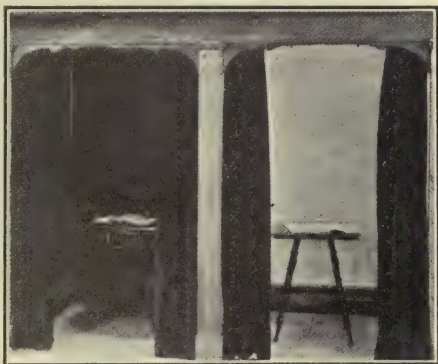

FIG. 117.— These two rooms receive the same amounts of light. The room at the left has dark walls and the one at the right has light walls.
**Indoor illumination.**— We see objects by means of light which comes from them to our eyes. If an object, such as a picture, is well illuminated, it reflects light to the eye, and we see it distinctly. If it is poorly illuminated, it reflects little light to the eye, and we see it indistinctly and with effort. Objects do not all reflect light equally well. A white object reflects most of the light which falls upon it and a moderate illumination is sufficient to light up a table with a white table cover. A black or dark object reflects light badly, and a strong illumination is necessary to light up dark stairways and darkly papered walls (Fig. 117). A light that would be strong enough for sewing white materials would be far from sufficient for sewing black or dark materials. A room that receives little light from out of doors should be brightly papered and furnished, otherwise it is somber, furniture does not stand out, and reading and sewing in it cause eye-strain. We are not always conscious of the strain on the eyes from working on badly lighted materials, but the strain exists and the eyes suffer. A sunny room, or one well lighted, does not need such bright paper, curtains, and furnishings, and can be arranged in darker colors without injury to the eyes.